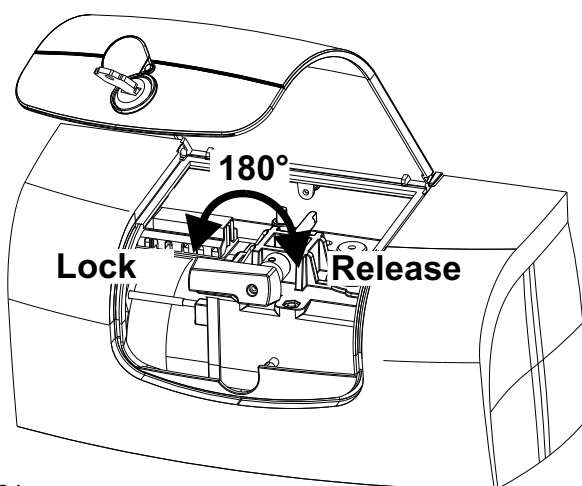

Fig. 24
- Turn the red release lever about 180° clockwise (Fig.24).
- Turn the red release lever about 180° counterclockwise (Fig.24).